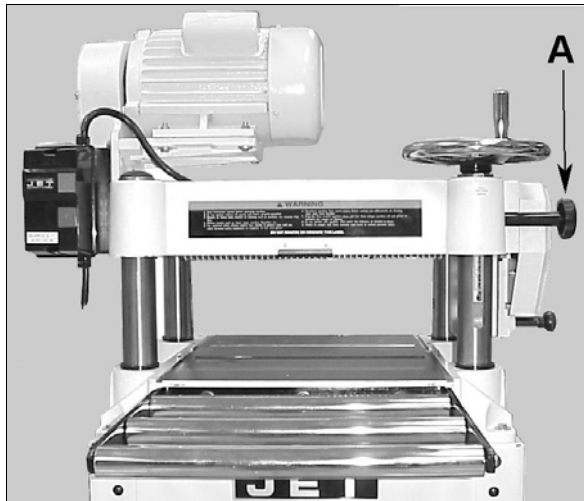

Figure 35
The JWP-16OS Planer is equipped with a spiral, serrated infeed roller (F) and a solid outfeed roller. When the feed rollers are engaged, they turn to feed the stock. The feed rollers are driven by chains (A) and sprockets (B) in the gearbox. The gearbox is located on the right side of the planer directly behind the *table lock knob* (A, Fig. 35). The gearbox transfers power from the belt-driven cutterhead to the power feed rollers. A two-speed transmission, controlled by a push/pull lever (D), moves the stock through the planer at either 16 or 20 feet-per minute. The push/pull lever is set *while the machine is running*.
Before attempting to adjust table height, loosen the two *table lock knobs*, one on the right front of the head casting assembly (A, Fig. 35) and the other on the left rear.